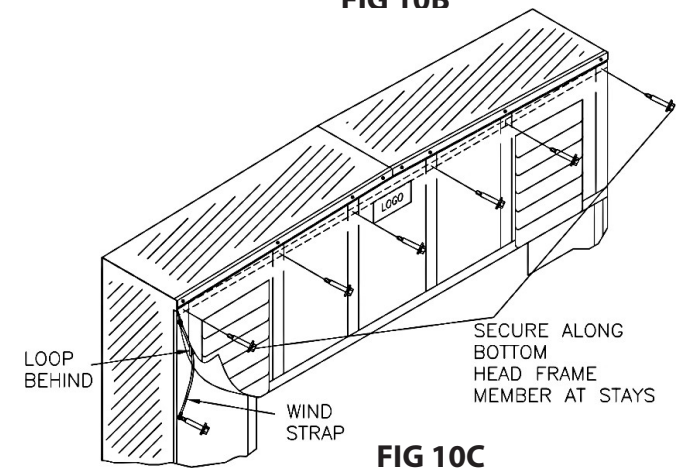

FIG 10C
c. Attach Header Curtain to bottom Head Frame member (Figure 10c).